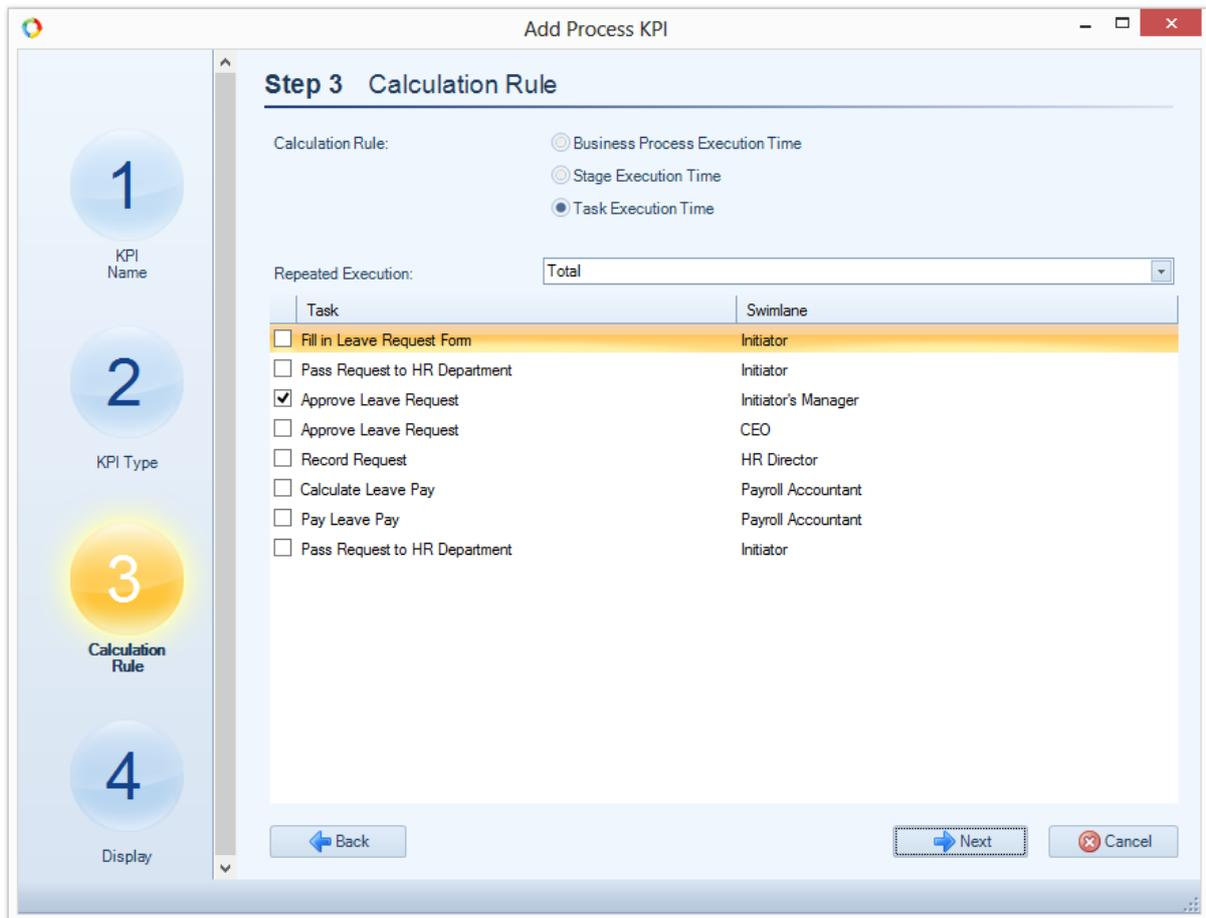

Fig. 165. KPI/metric wizard: Step 3. Calculation Rule
Step 3. Calculation Rule (Fig. 165)
Configure the KPI as follows (Fig. 165):